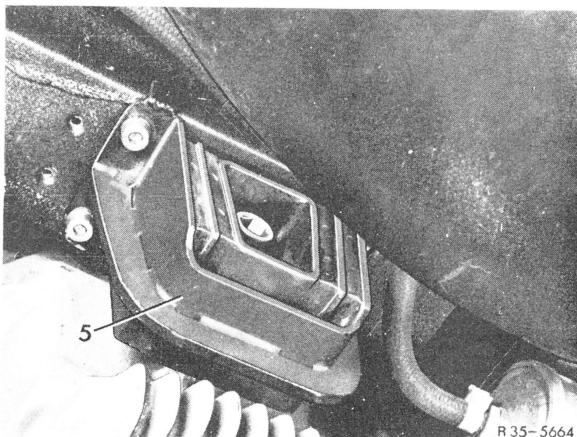

Fig. 7
**10** Unscrew rear rubber mounting (5) on frame floor (Fig. 7).
**21** Lift rear axle center housing up to frame floor and attach rubber mounting to frame floor. Tightening torque of hex. bolts 25 Nm (2.5 kpm) (Fig. 7).